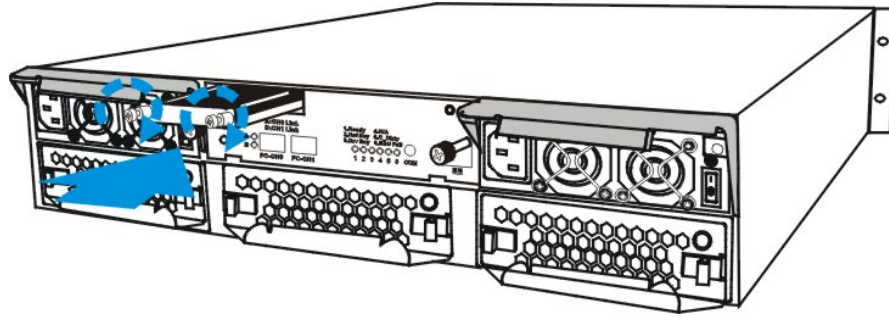

Figure 5-4: Install the BBU Module
- Step 2. **Install the new BBU module.** After the faulty BBU module has been removed, the new BBU module can be installed. To do this, align the BBU module with the empty slot, and then gently push the BBU module into the slot. (See **Figure 5-4**)